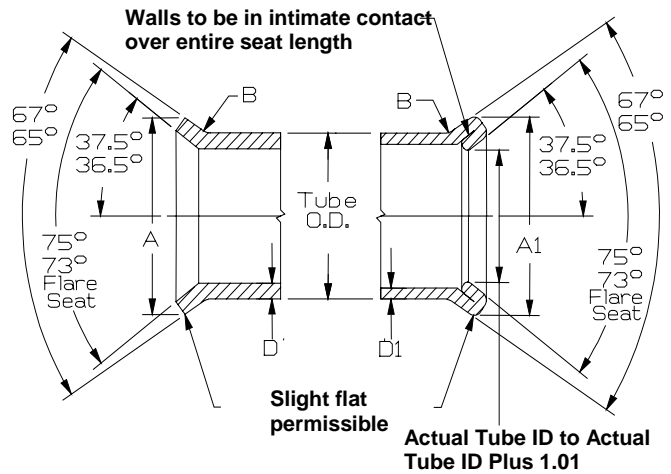
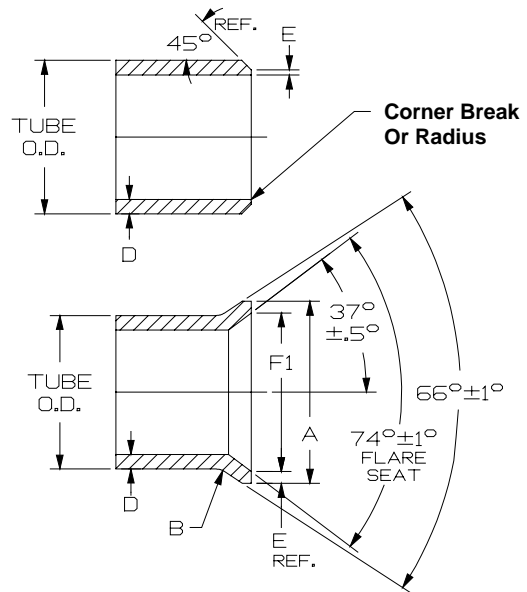

Fig.A15 Single and Double 37 Degree Flares for Tubing
Fig.A16 Optional Tube Preparation and Single 37 Degree Flare for Tubing
3. Deburr O.D. and I.D. of tube. Refer to Fig.A16 and Table A9 for recommended tube chamfers for heavy wall tubing.
6. Using the correct flaring tool for the tube size and desired flare angle, flare the tube end. Refer to Fig.A15 for thin wall tubing flares and to Fig.A16 for typical hydraulic system pressure line tubing flares.
7. Inspect flare to the dimensions indicated in Fig.A15, Fig.A16 and Table A9. In addition, flare should be checked for concentricity, thin out, cracks, nicks, loose slivers, burrs, pits or other defects which may prevent sealing.